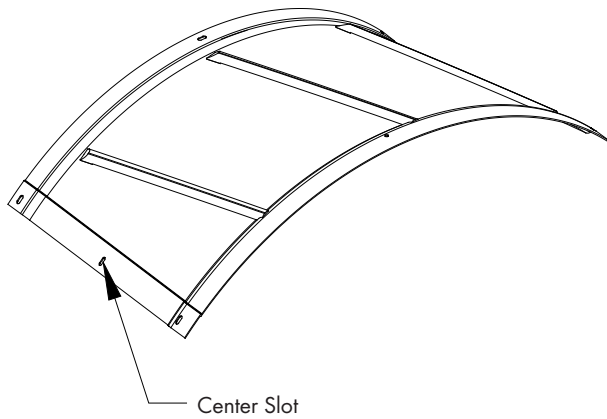

Figure 3A
Join Cone Sections together by installing Bolt [A] through hole and into slots in the center of each joint and secure with Nut [B]. See Figure 3A and 3B. Tighten nuts finger tight at this time. For 51FCE, join cone sections together by installing Bolts [A] through (2) holes and into slots in the center of each joint.